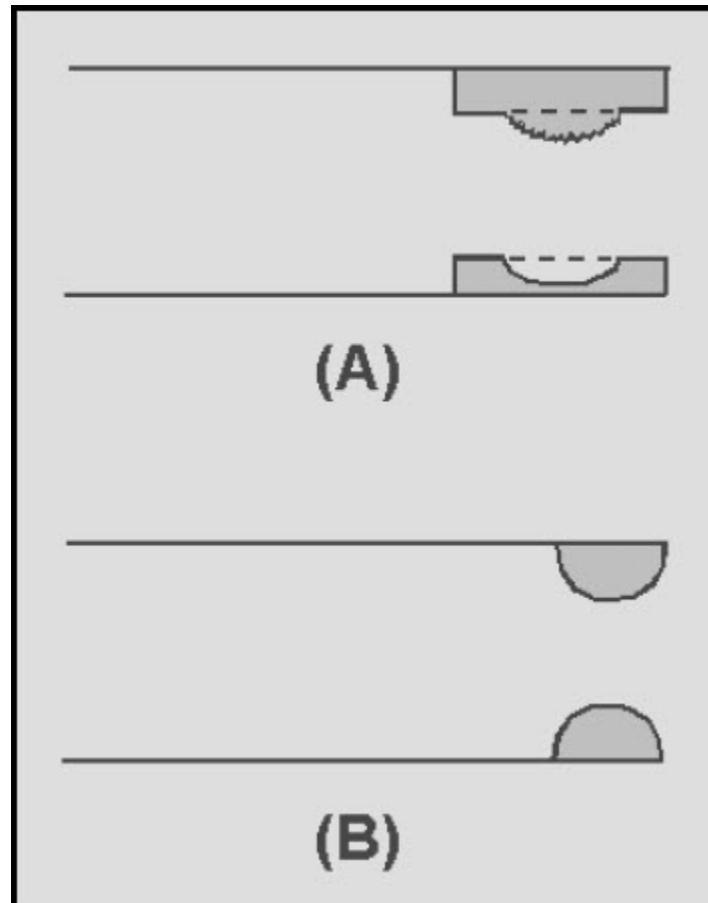

Figure 3-25 Relay contacts
When current flows in one direction through a relay, a problem called "cone and crater" may be created at the contacts. The crater is formed by transfer of metal from one contact to the other contact, the deposit being in the shape of a cone. This condition is shown in figure 3-25(A).
Some relays are equipped with ball-shaped contacts and, in many applications, this type of contact is considered superior to a flat surface. Figure 3-25(B) shows a set of ball-shaped contacts. Dust or other substances are not as readily deposited on a ball-shaped surface. In addition, a ball-shaped contact penetrates film more easily than a flat contact. When you clean or service ball-shaped relay contacts, be careful to avoid flattening or otherwise altering the rounded surfaces of the contacts, YOU could damage a relay if you used sandpaper or emery cloth to clean the contacts.